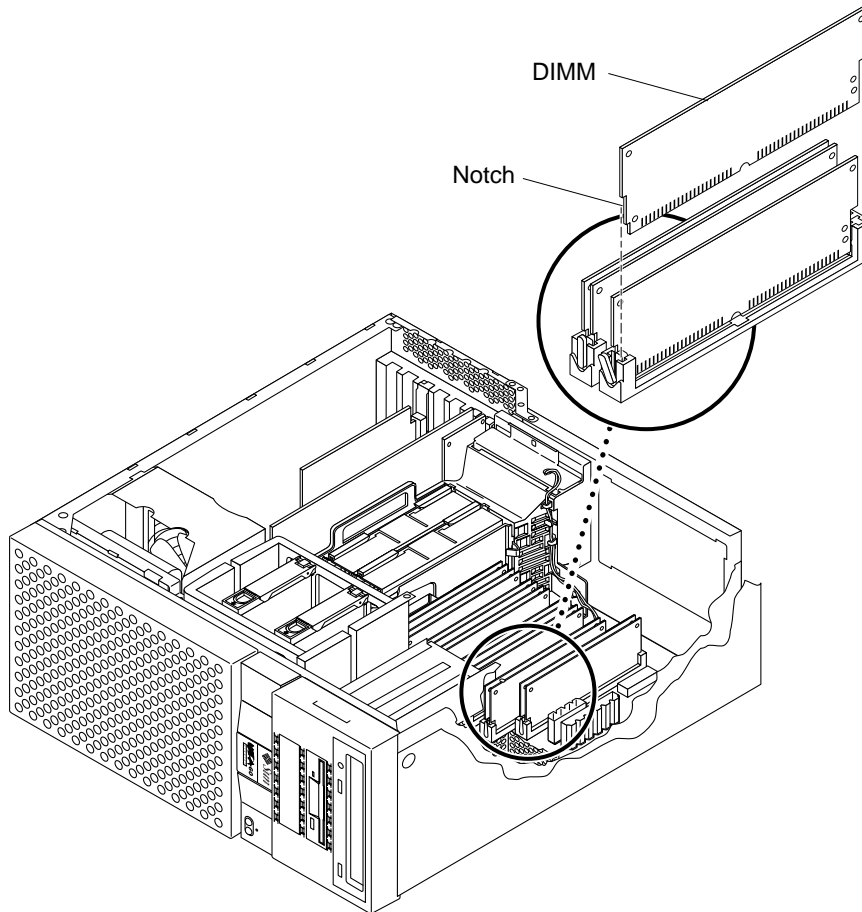

FIGURE 3-7 Removing a DIMM from an Ultra 60
5. Remove the DIMM from the socket (FIGURE 3-7).